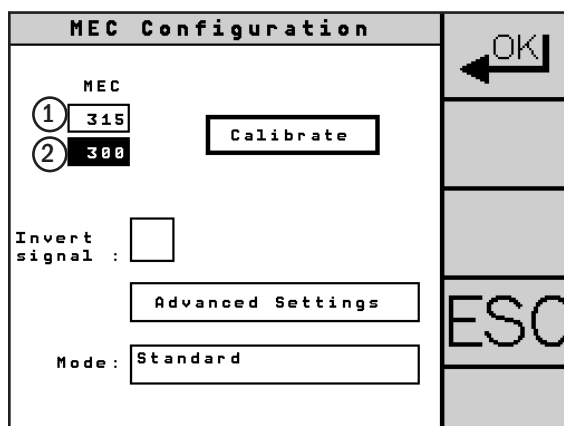

Fig. 249: Display sensor value
On the menu page of the MEC configuration, you can make different settings (see Fig. 249).
- The first line shows the current value of the sensor (see Fig. 249 – 1).
- The second line shows the last saved value (see Fig. 249 – 2).